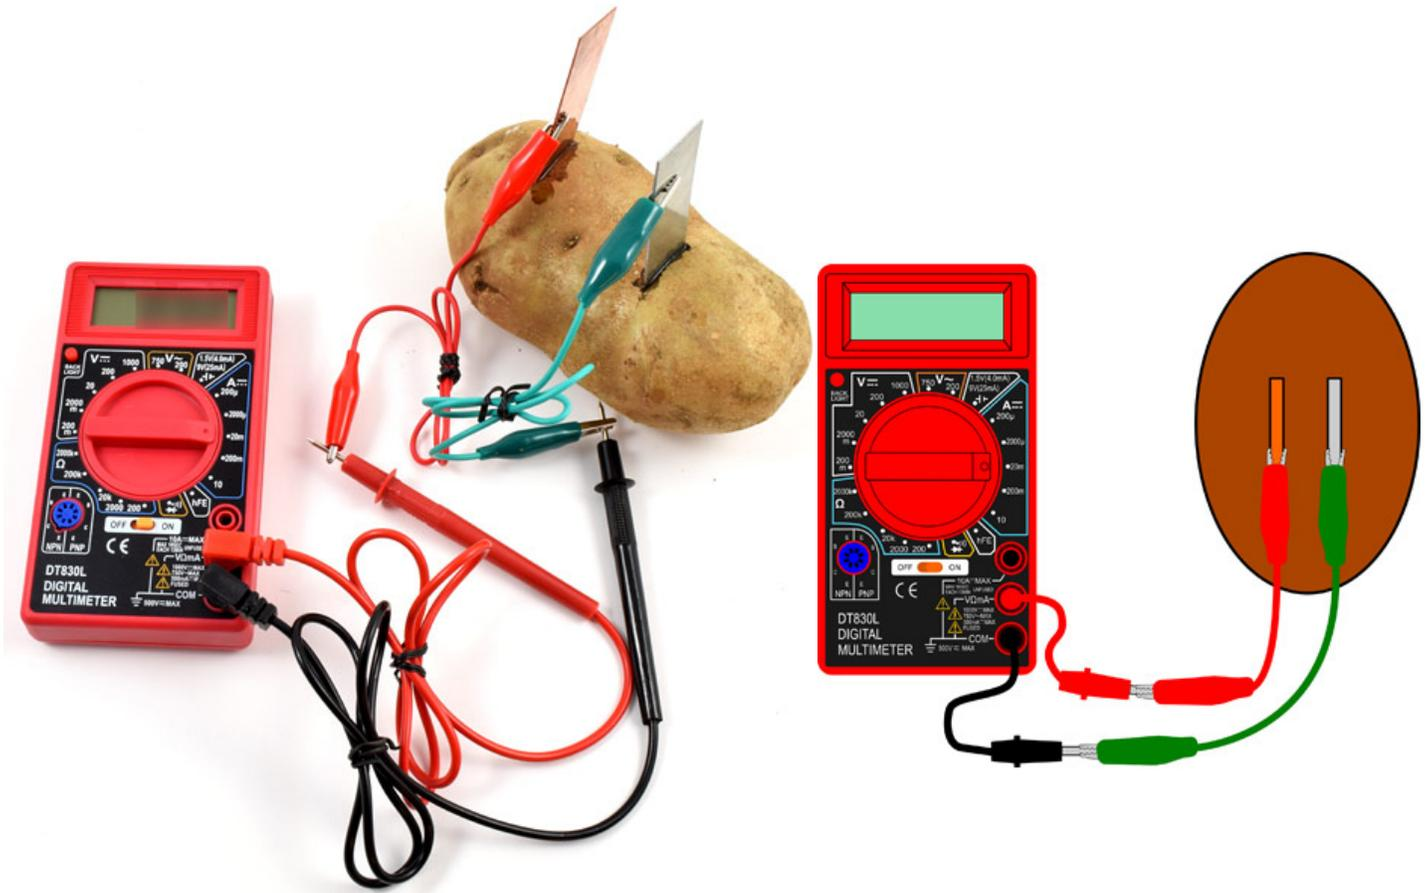

Figure 6. How to set up your multimeter to record the short-circuit current.
4. Measure the short-circuit current, as shown in Figure 6.